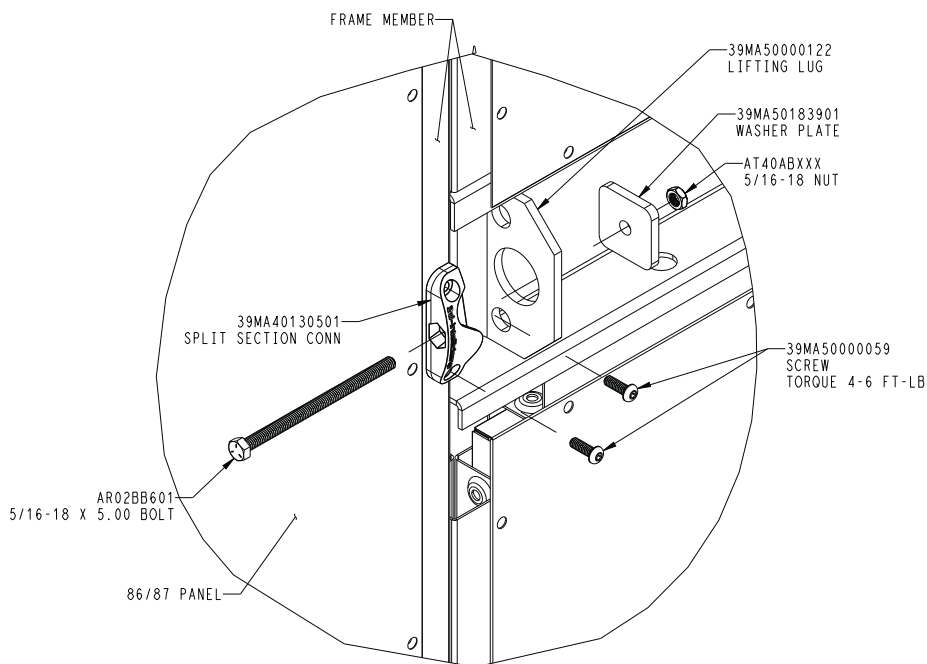

Fig. 174 — Secure ERV Wheel on 6 in. Baserail
10. Secure the ERV wheel section frame Intelliclamp connector to the supply air module 6 in. base rail as shown in Fig. 174.
15. Secure the ERV wheel section frame Intelliclamp connector to the exhaust air module 6 in. baserail as shown in Fig. 174.
18. Secure the ERV wheel section frame Intelliclamp connector to the outside air module 6 in. baserail as shown in Fig. 174.